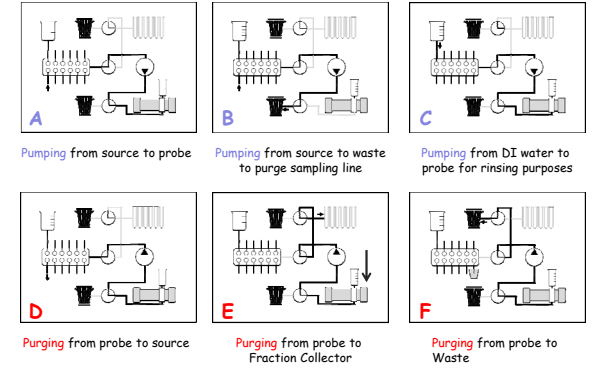

Fig. 3: Schematics of the different configurations available for pumping, purging, rinsing and sampling
- Test system for riskiest configuration sequence, i.e. in Fig.3 A D C F, A D C F, etc. alternating sampling from two, low and high concentrations, bottles of 500 mL each